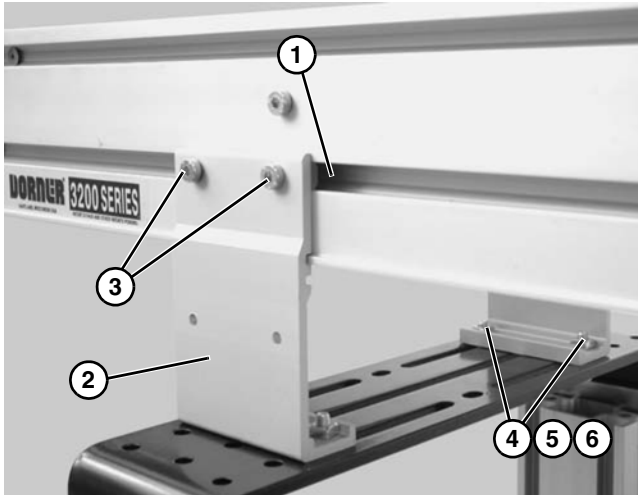

Figure 13
3. Insert T-bars (**Figure 11, item 5**) or (**Figure 12, item 5**) into conveyor side slots (**Figure 13, item 1**). Fasten brackets (**Figure 13, item 2**) to conveyor with mounting screws (**Figure 13, item 3**).
4. Fasten brackets to support stand with mounting screws (**Figure 13, item 4**), washers (**Figure 13, item 5**) and nuts (**Figure 13, item 6**).
5. Tighten screws (**Figure 13, item 3 & 4**) to 60 in-lb (7 Nm).